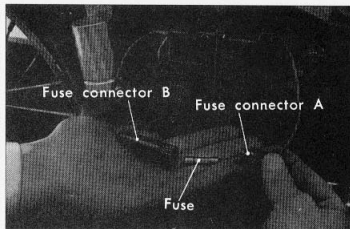
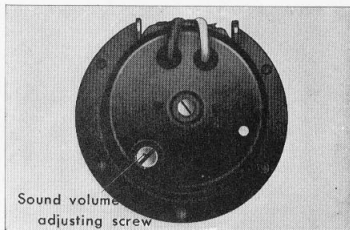

Figure 5-34. Fuse
Figure 5-35. Adjusting the horn
- (1) If the horn does not produce any sound, first check to see if the fuse is blown. (Fig. 5-34)
- (2) When checking any defect condition, connect the horn directly to the battery with separate leads.
- b. When the sound is weak, adjust the screw at the back of the horn. (Fig. 5-35)